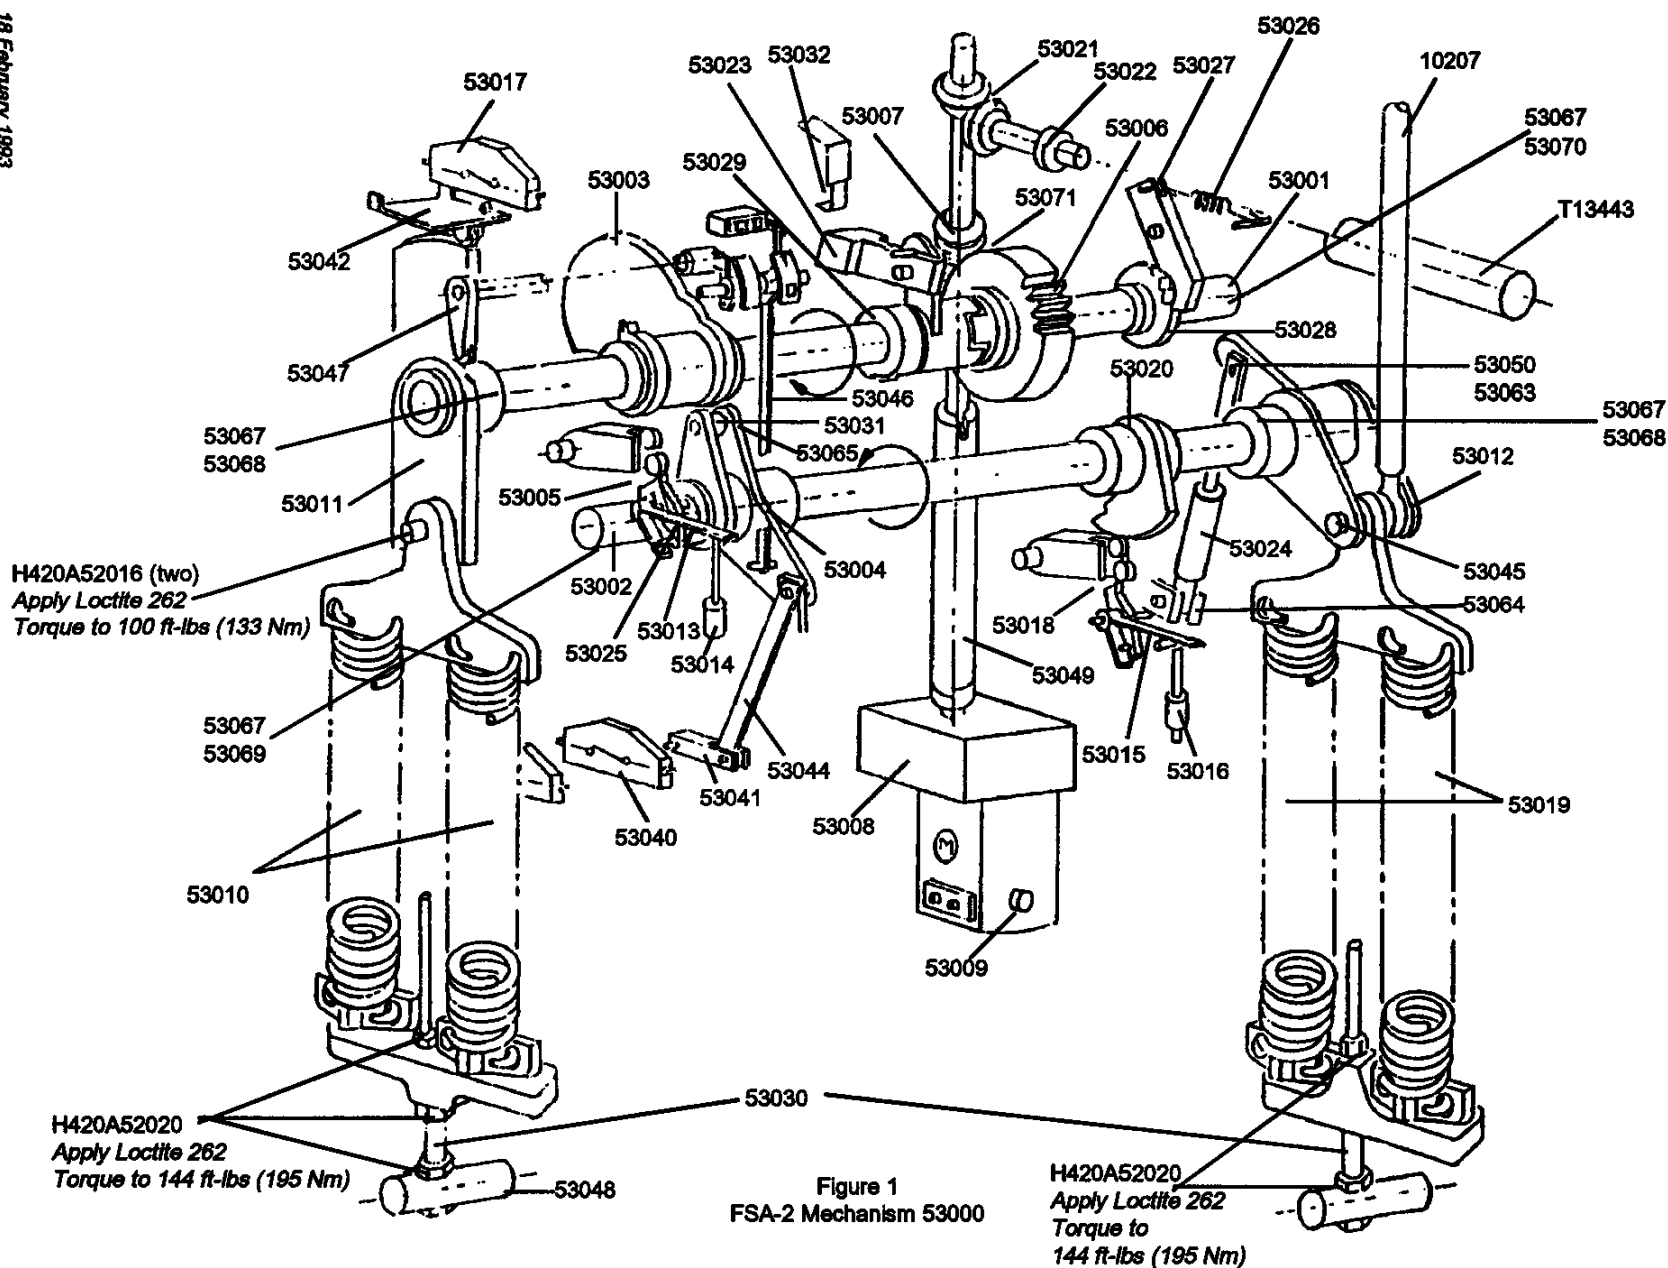

Figure 1
The closing latch assembly 53005 (Fig. 1) is factory-set. The only maintenance required is lubrication as described in Table 1 of section 5.2.2. If a closing latch assembly is worn, it should be replaced as an entire assembly.
1. Remove the close coil 53014 (Figs. 1 and 2) from the closing latch assembly.
The charging motor and gearbox assembly 53008 (Fig. 1) is a single unit. The following procedures are covered in this section:
To repair or replace the charging motor and gearbox assembly 53008 (Fig. 1):
To replace the motor brushes 53009 (Fig. 1):
5. Remove the old motor brushes 53009 (Fig. 1) and replace them with new brushes.
Both the opening springs 53019 (Fig. 1) and closing springs 53010 can be changed without removing the mechanism from the breaker control cabinet. Prior to removing a spring assembly, be sure that the mechanism is discharged.
3. Loosen the M20 lock nuts H420A52020 (Fig. 1) on the adjustment screw 53030 at the bottom of the spring assembly and relax the spring set by turning the adjustment screw. It may be necessary to heat the lock nuts to loosen the Loctite.
2. Loosen the M20 lock nuts H420A52020 (Fig. 1) on the adjustment screw 53030. It may be necessary to heat the lock nuts to loosen the Loctite.
4. After the opening and closing velocities are properly set, apply Loctite 262 to the M20 lock nuts H420A52020 (Fig. 1) of the adjustment screw 53030 and torque them to 144 ft-lbs (195 Nm).
The limit switch assembly 53042 (Fig. 1) is actuated by the closing spring crank 53011. When the closing springs 53010 are charged, the crank engages the limit switch assembly to change the state of the limit switches 53017.